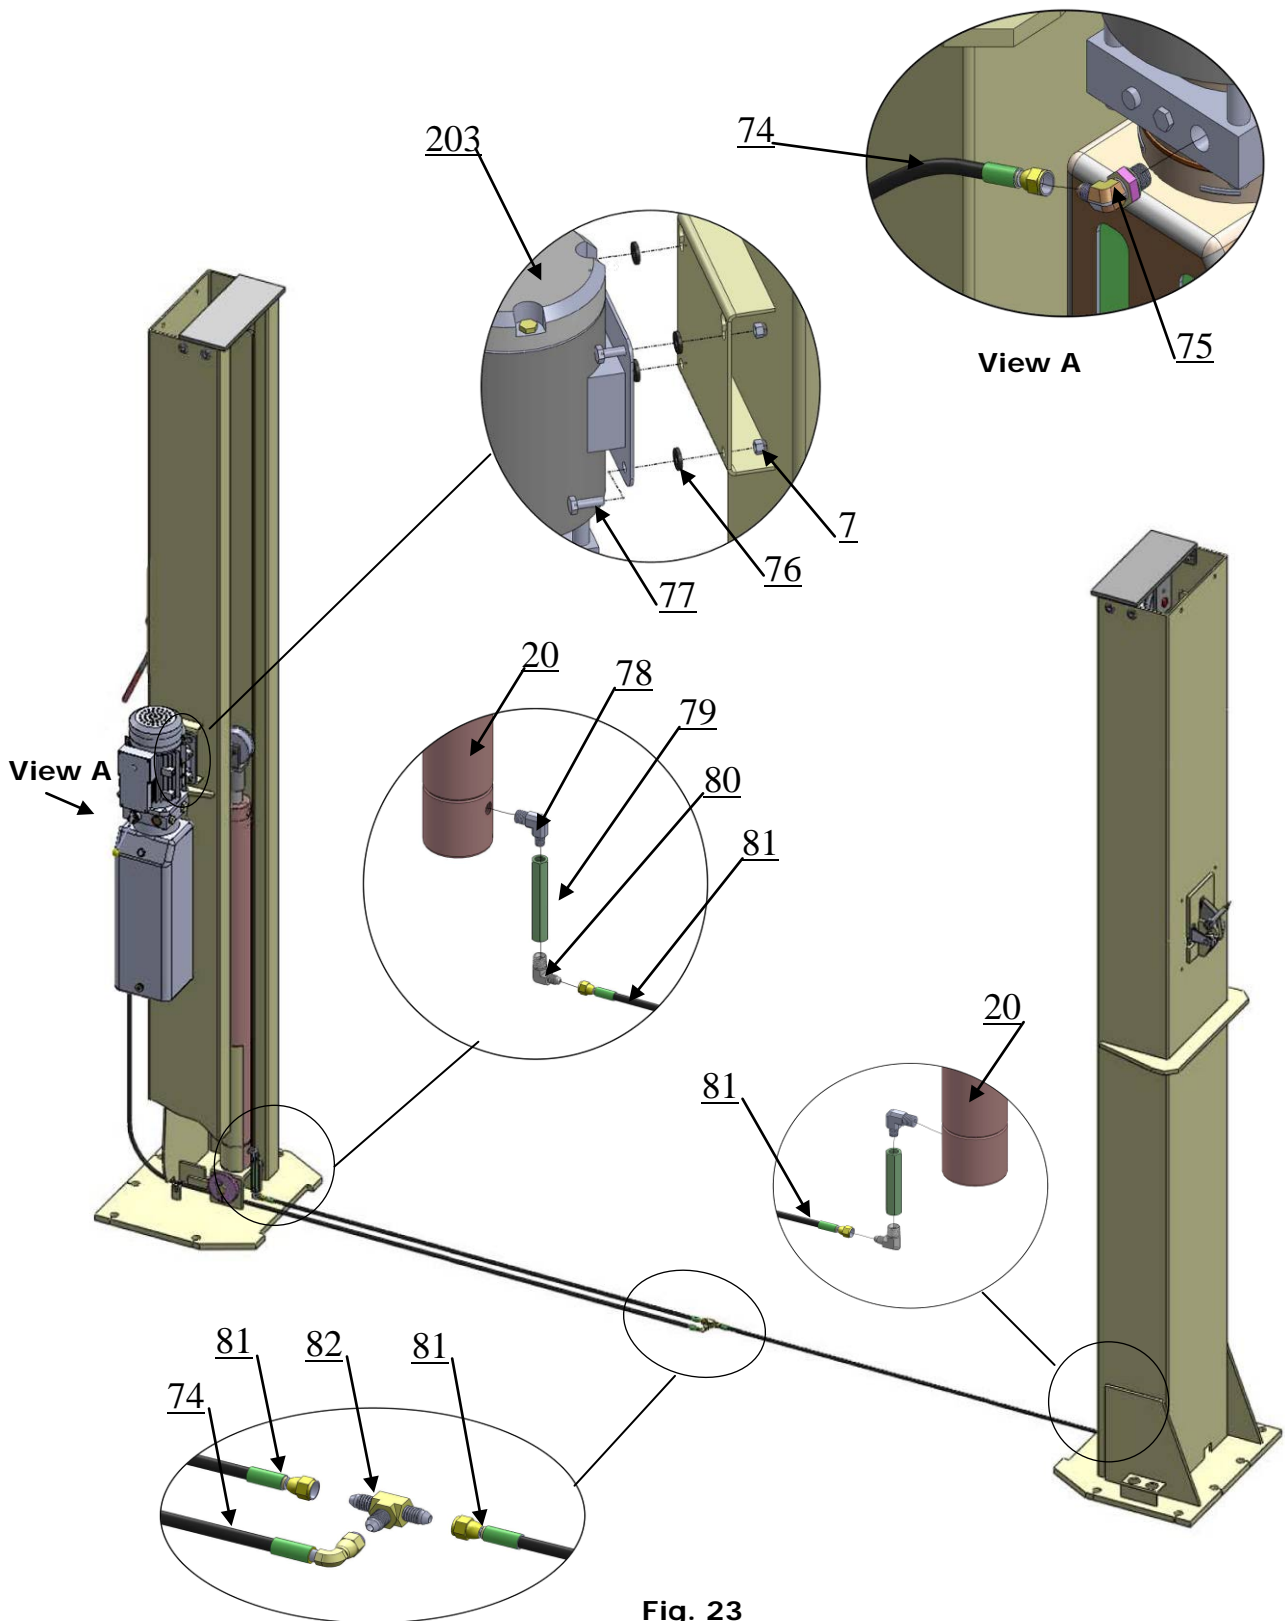

Fig. 23
K. Install hydraulic power unit and oil hose assy. (See Fig. 23).